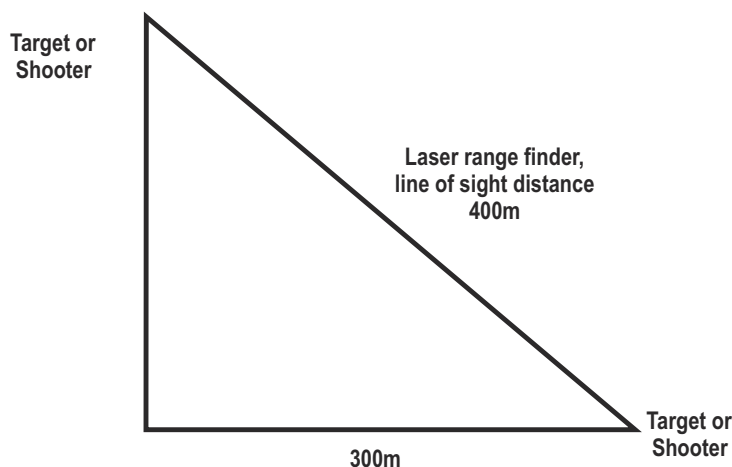

Figure 11-1. Example of Slope Angle.
- Adjust from impact (see fig. 11-1 on page 11-4).